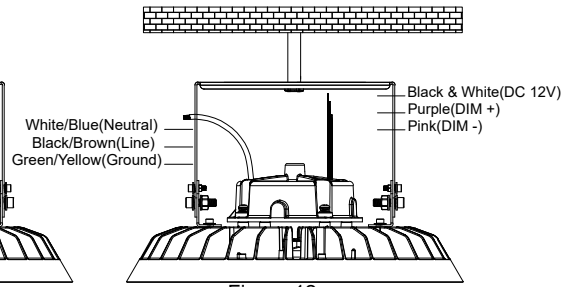

Figure 12
③ After installation, connect the wire of the fixture to the mains according to local wiring rules, ensure the connection is stable and make Good protection on connection.(Figure12)